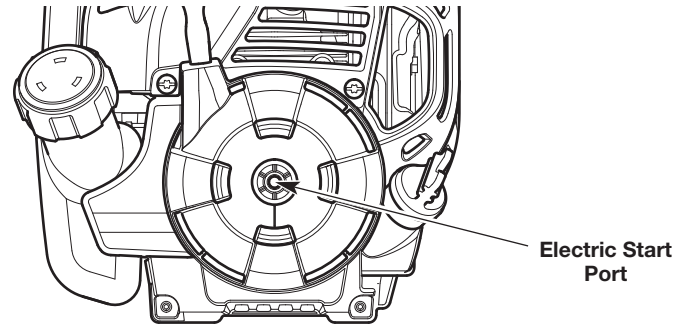

Fig. 14
5. Insert the electric start accessory into the electric start port (Fig. 14). Refer to the *Operation* section of the electric start accessory operator's manual.